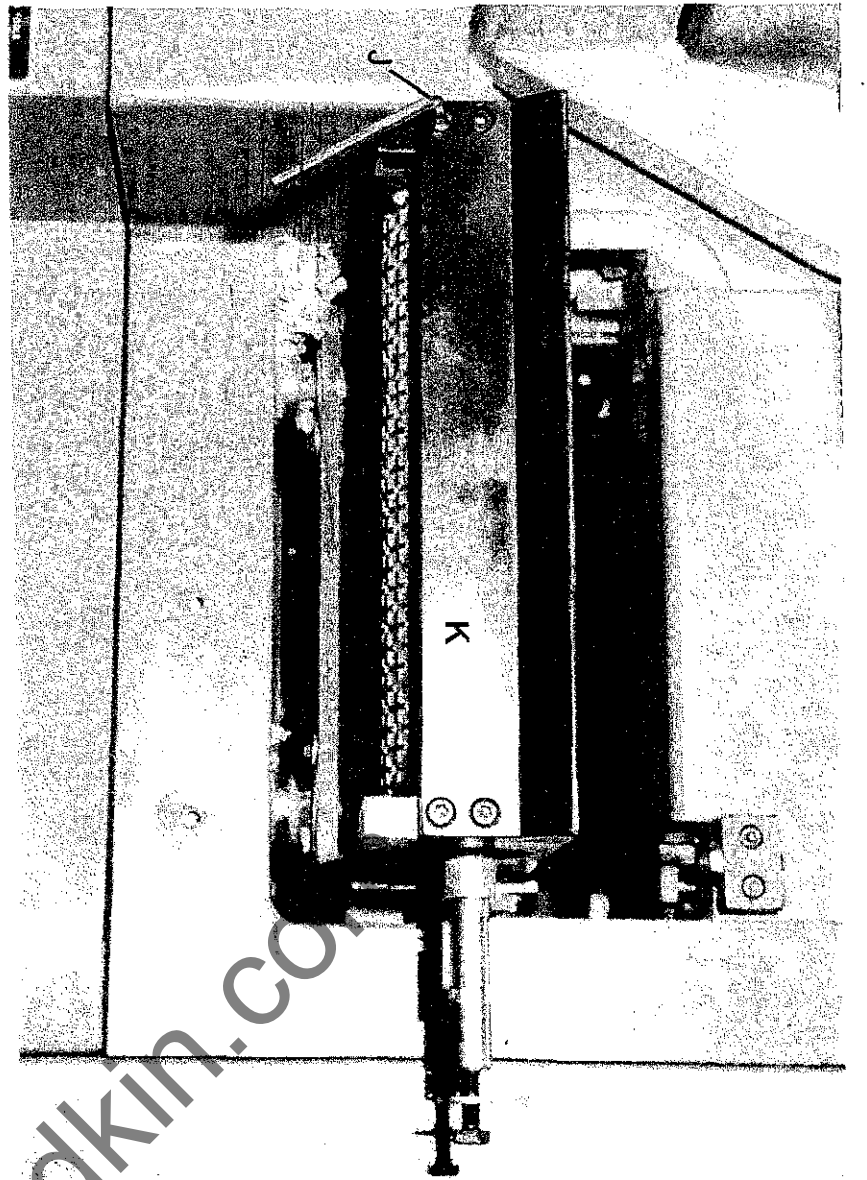

Fig 38
- 13) Remove 4 - M8 caphead screws "J" and rear fence slide bar "K" complete with guard FIG.38.